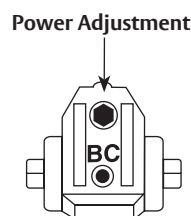

Figure 14
1. Using 1/8" hex wrench, turn power adjustment screw clockwise to increase door closing power. (Figure 14)